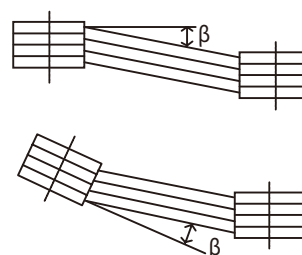

Fig. 5-4
- The parallelism, eccentricity  $\beta$  of the two pulleys should be within  $20'$ . (See figure 5-4)